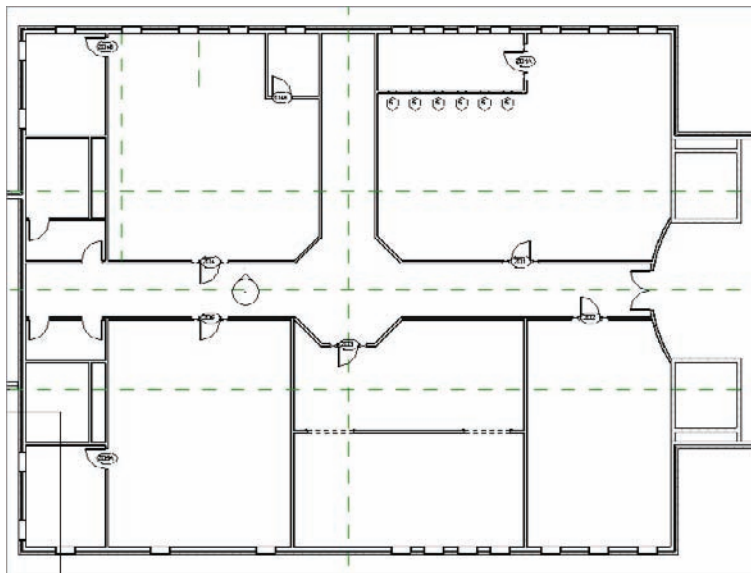

FIGURE 4.54 The layout for Level 2. Try to make the dimensions as even as possible, consistent with what is shown here.
7. Create a floor plan layout similar to Figure 4.54. Make all of the dimensions as even and as round as possible. Use all the commands and functions you have learned up to this point.